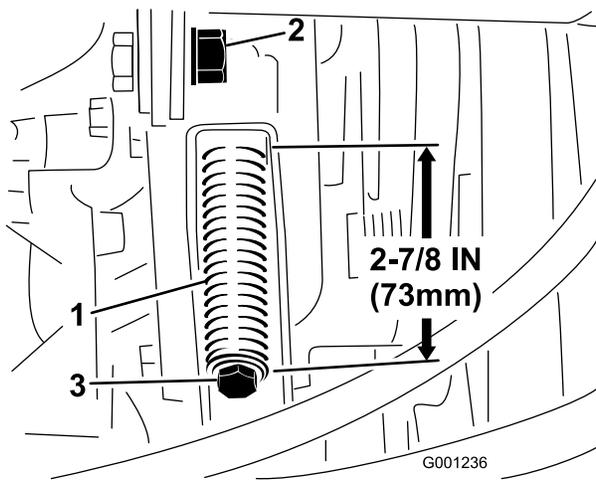

Figure 65
3. Loosen the tensioning rod jam nut (Figure 65).
4. Use a 1/2 inch wrench to tighten or loosen the belt tensioning spring (Figure 65). Adjust spring to a length of 2-7/8 inches (73 mm).
4. Using a 1/2 inch wrench, loosen the belt tensioning spring (Figure 65) all the way.
6. Install the new PTO belt and tension the pulley spring to 2-7/8 inches (73 mm) (Figure 65).
7. Tighten the jam nut (Figure 65) and close the hood.